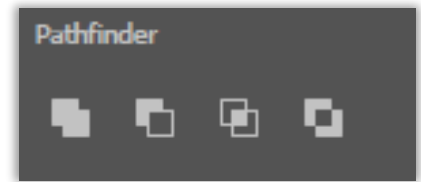

Figure 8: The Unite, Minus, Intersect and Exclude operation icons.
- c. For merging, select your coaster and all the shapes you want to merge, then go to the properties tab and select “Unite” **(Figure 8)**